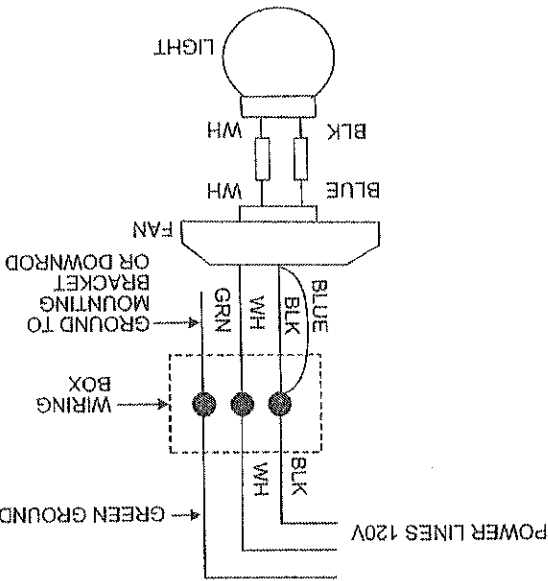

Figure 12
Step 1 Connect the fan supply (black) wire and light supply (blue) wire to the black household supply wire as shown in Figure 12.